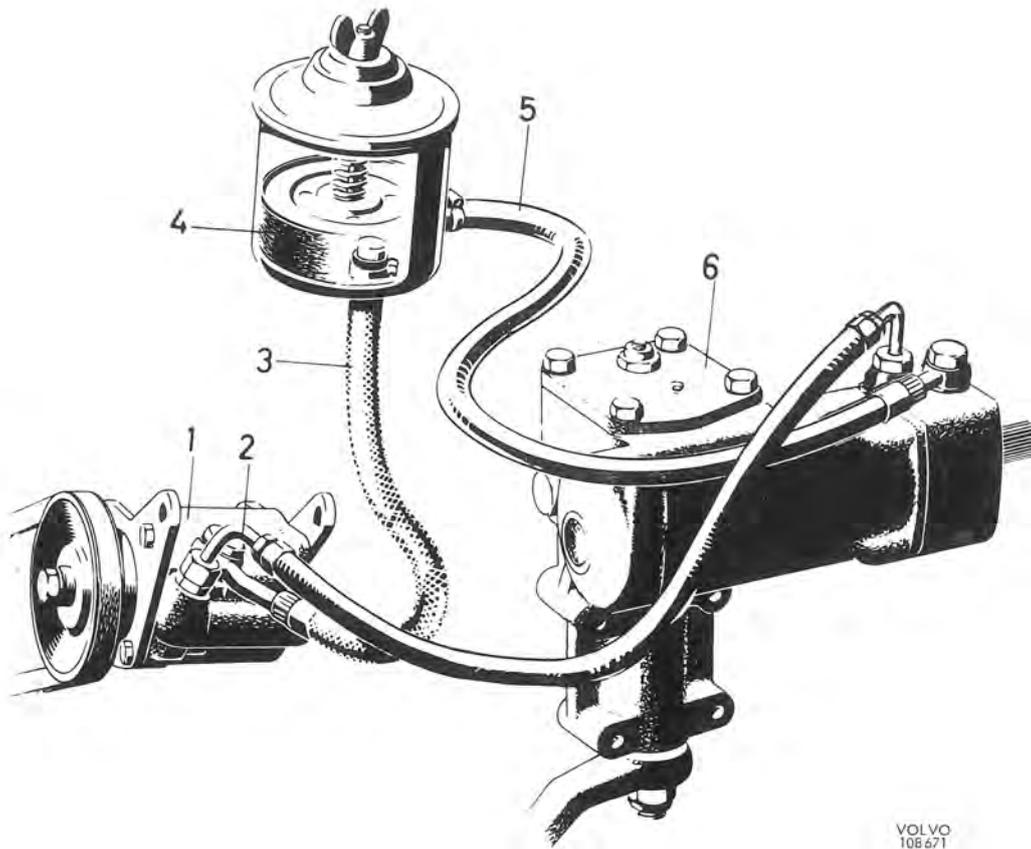
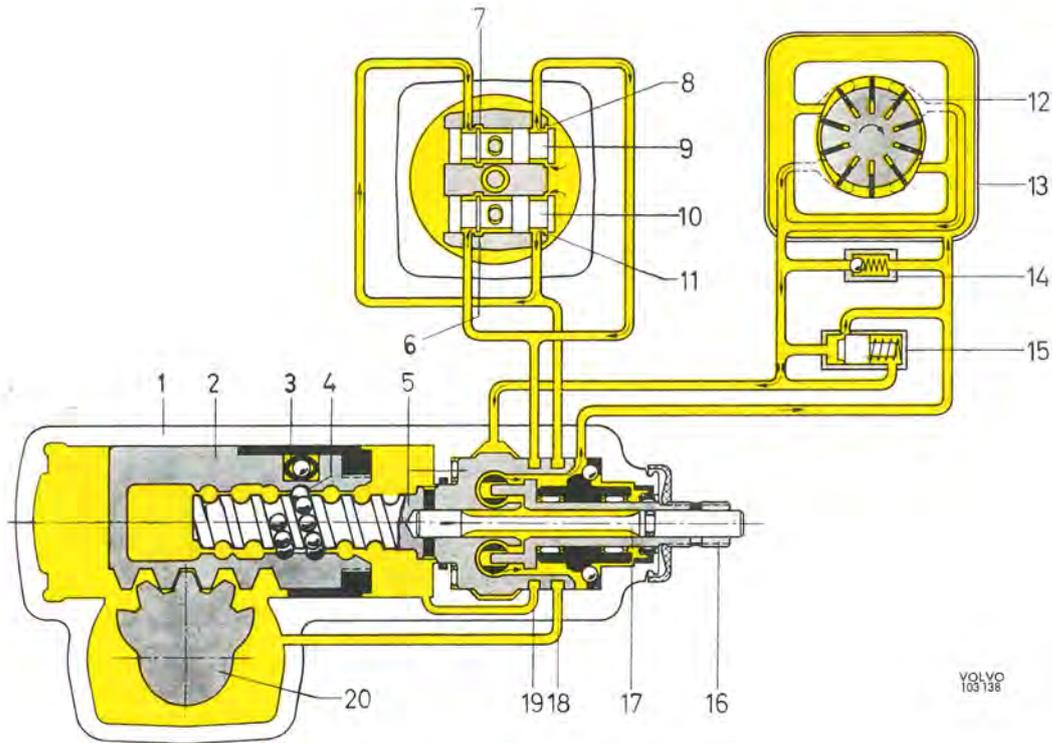
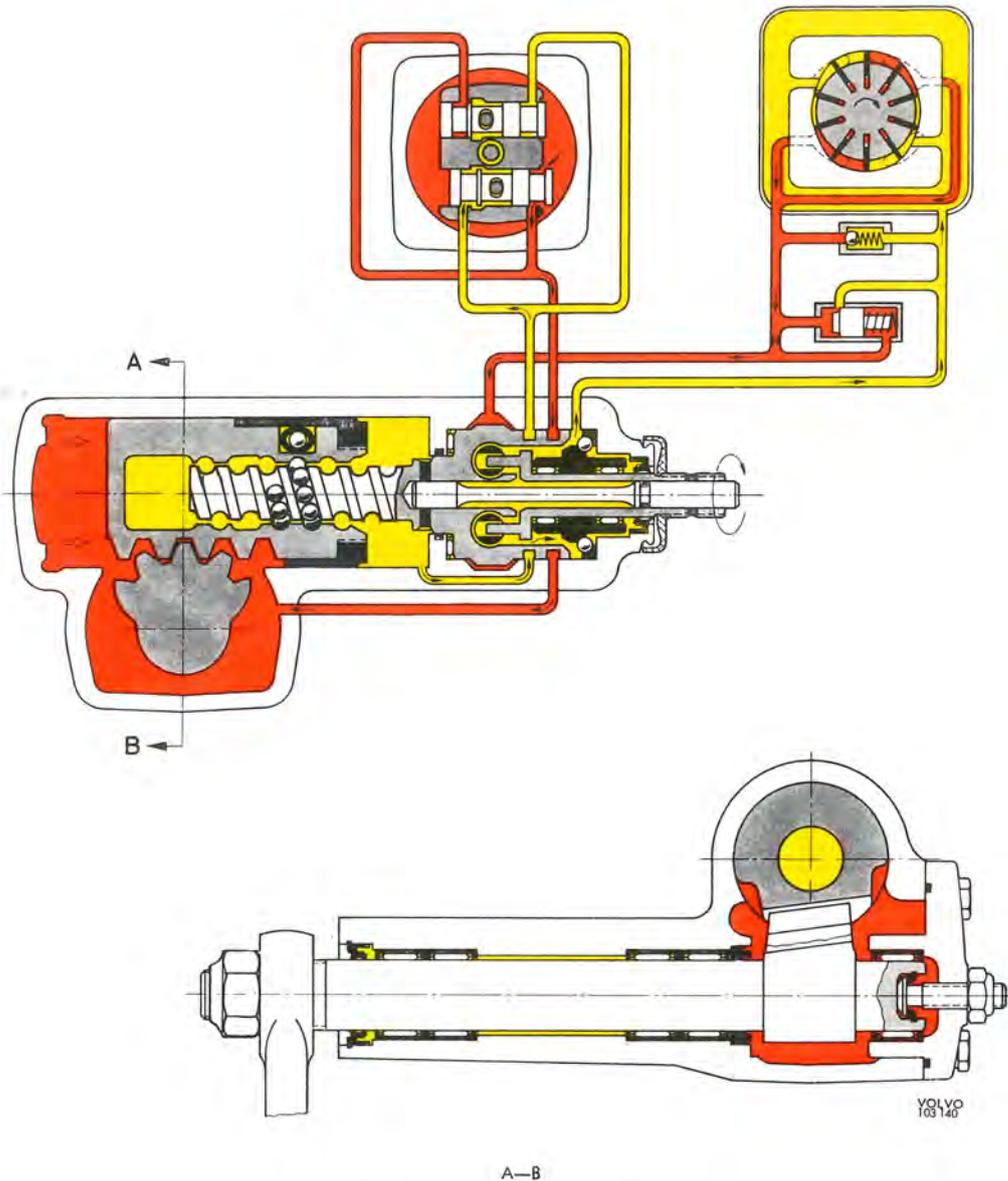

Fig. 6-37. Power steering
Fig. 6-39. Function, neutral position
Fig. 6-41. Function, right-hand turn
This vehicle is fitted with the ZF recirculating ball and nut type power steering. The main components of the power steering system are the steering gear, power pump and oil container with filter. These are connected to the various oil lines, see Fig. 6-37.
The steering gear is of the worm and roller type. In addition to the mechanical section, the power cylinder and control valves are built into the steering housing. The lower part of the steering housing (1, Fig. 6-39) is in the shape of a cylinder in which the piston (2) is fitted. On the one side the piston is in the form of a rack gear which meshes with the tooth segment of the sector shaft (20).
The construction of the steering gear differs with regard to a left-hand steered and a right-hand steered vehicle in the matter of the location of the sector shaft and the worm thread. Fig. 6-37 shows the steering gear for left-hand steering while Figs. 6-39—6-41 shows that for right-hand steering. The following description of the function applies to both.
The location of the valve pistons as well as that of the oil flow are shown schematically in Figs. 6-39, 6-40 and 6-41. In order to illustrate more clearly how
As soon as the front wheels have been turned to the desired position, and the forces acting on the steering wheel become less, the valve pistons return to the neutral position under the influence of the torsion rod. When the steering wheel is turned to the right (see Fig. 6-41), the piston (2) is screwed to the right in the figure. The valve piston (10) is moved to the right and permits oil under pressure to pass to the radial groove (18) of the valve housing and from there to the left side of the cylinder. Oil under pressure also flows to the return groove (7) which, however, is closed so that the oil pressure on the left side of the operating piston (2) rises and facilitates turning of the sector shaft. Oil at the right side of the cylinder is pressed by the piston via the radial groove (19)
Oil is conveyed under pressure from the pump into an annular chamber round the valve housing (the large circle in the cross-section). In the neutral position (Fig. 6-39) the valve pistons (9 and 10) are so adjusted that oil can pass the intake ports (8 and 11) and flow on to the radial grooves (18 and 19) in the valve housing. From here the oil is led partly to both sides of the piston (2) through the radial grooves (18 and 19), and partly — as long as the valves are in the neutral position — to both the return grooves (6 and 7) at the valve pistons. From the return grooves oil flows through the return channel back to the container.
Turning the steering wheel to the right (see Fig. 6-41) will screw the piston (2, Fig. 6-39) to the right on the figure. The valve piston (10) is displaced to the right and permits oil under pressure to pass to the radial groove (18) of the valve housing and from there on to the left-hand side of the cylinder. Oil under pressure also flows to the return groove (7) which, however, is closed so that oil pressure on the left-hand side of the operating piston (2) rises and facilitates the turning of the lever shaft. Oil at the right-hand section of the cylinder is pressed by the piston via the radial groove (19) through the return groove (6) of the valve piston (10) back to the oil container (13).
The space in the intermediate piece is oval, see Fig. 6-41. This permits the area between the rotor, the wall of the intermediate piece and two of the vanes to